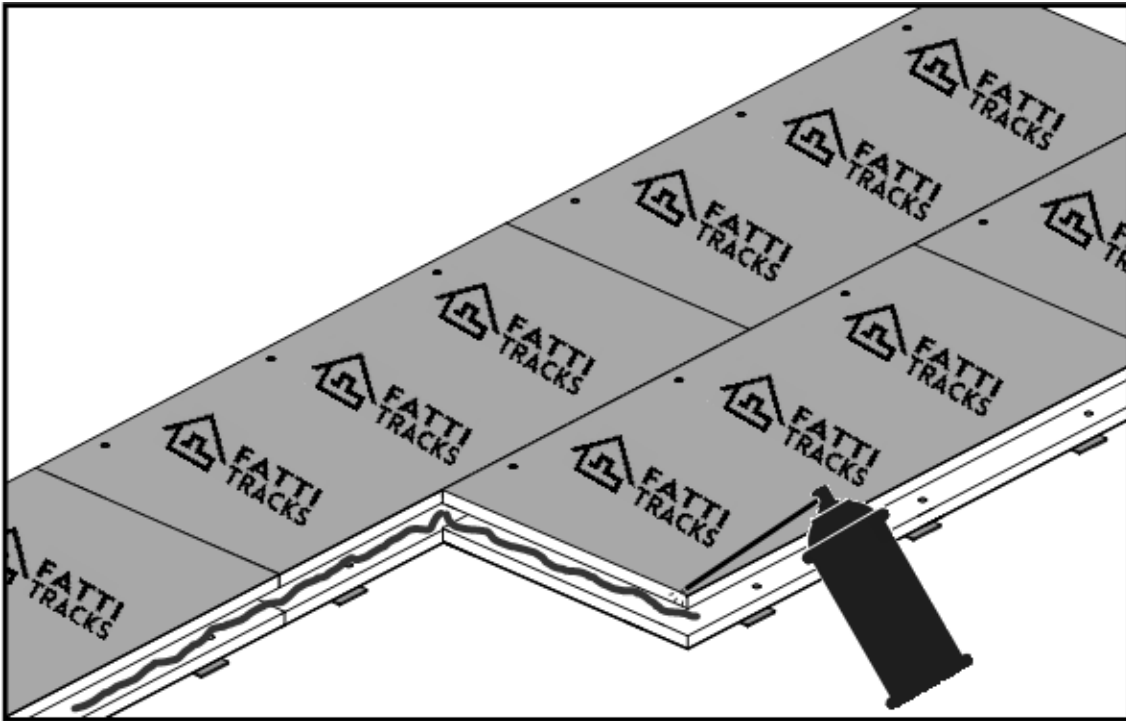

Fig. 4
- To maximize water tightness, apply the adhesive to joints using a continuous single bead along the exposed panel edge where the panels overlap (see fig. 4).